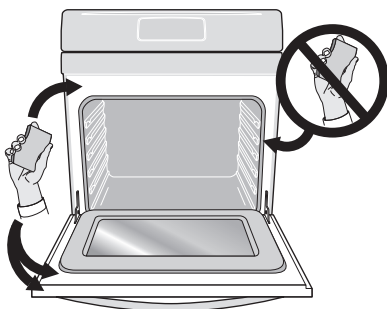

Figure 6: Clean around the oven door gasket
- Do not use oven cleaners or protective coatings in or around any part of the oven interior. Do not clean the oven door gasket. Take care not to rub, damage, or remove the gasket or use any cleaning substances on the oven door gasket (See Figure 6). Doing so could cause damage and reduce the efficiency of the oven's performance.
- Clean any soil from the oven frame, door liner outside the oven door gasket, and the small area at the front center of the oven bottom with soap and water (See Figure 6). These areas heat sufficiently to burn soil on.